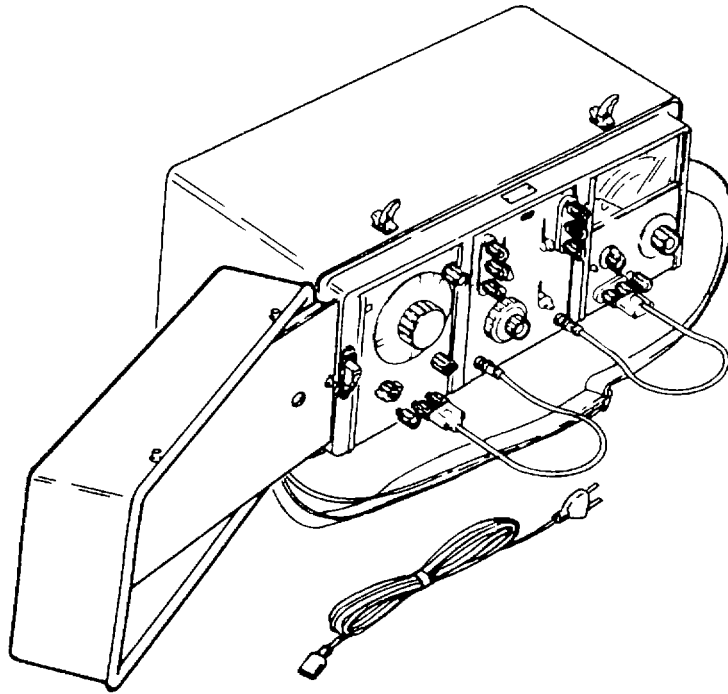

Figure 1-1. Telephone test set (*), front view.
This manual describes Test Set, Telephone AN/USM-181B and AN/USM-181C (fig. 1-1) and provides instructions for Installation, operation, and operator and organizational maintenance. It includes instructions for operation under usual and unusual conditions, cleaning and inspection of the equipment, and replacement of parts available to the operator and organizational repair person. Hereinafter, the equipments are referred to as telephone test set (*) unless otherwise specified.
- The telephone test set (*) includes three self-contained units (signal generator, attenuator, and voltmeter), power and signal cable assemblies, a carrying strap, and a carrying case. Figure 1-1 shows the major components of the test set assembled.